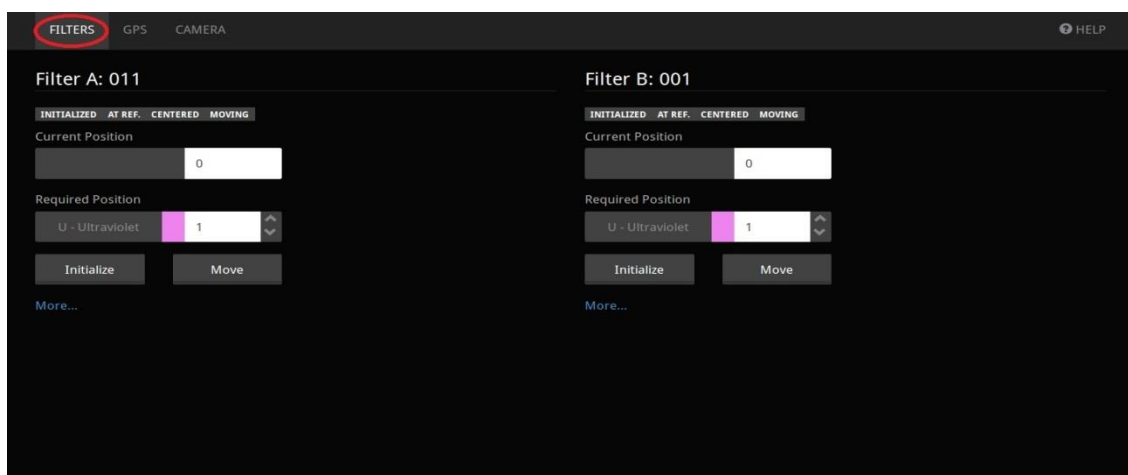

Figure 9: Filter Wheel GUI
11. Check the Filter & GPS operation: Click on the “Filter Wheel” and “GPS” Tabs at the top RH corner of the web GUI to access the controls. See Figures 9 & 10.